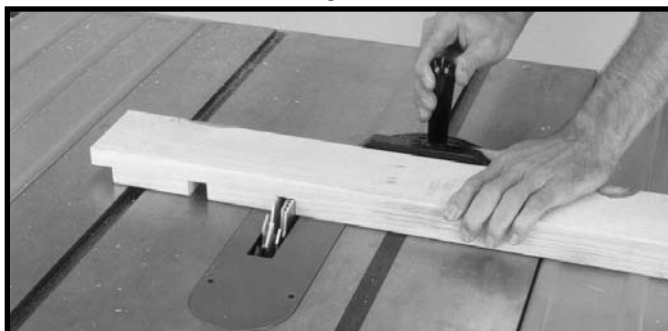

Fig. 75
3. Fig. 75, shows a typical dado operation using the miter gage as a guide.